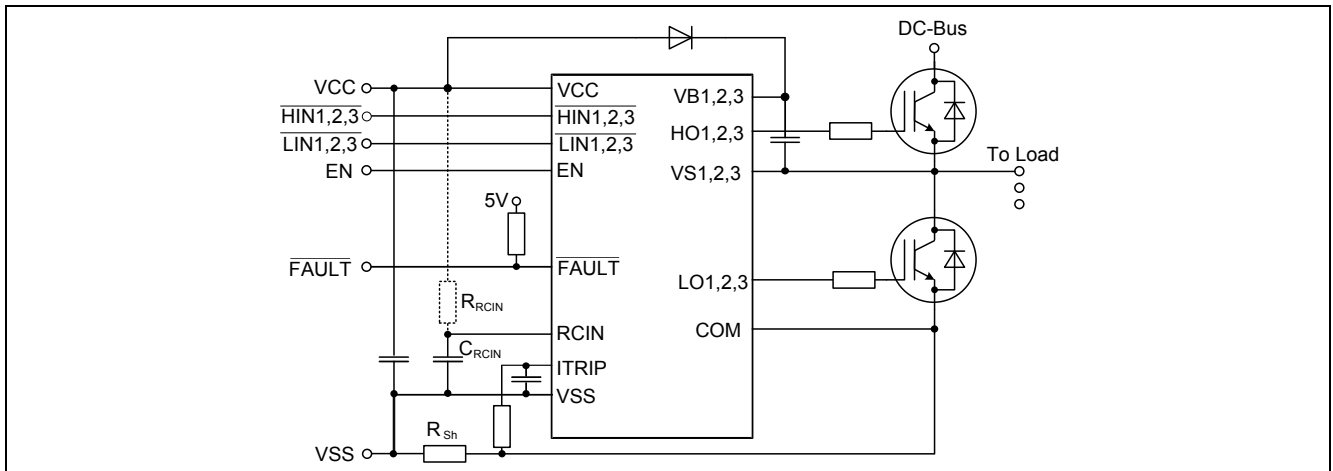

Figure 1 Typical Application
p. 8	revised Figure 1
The six independent drivers are controlled at the low-side using CMOS resp. LSTTL compatible signals, down to 3.3 V logic. The device includes an under-voltage detection unit with hysteresis characteristic and an over-current detection. The over-current level is adjusted by choosing the resistor value and the threshold level at pin ITRIP. Both error conditions (under-voltage and over-current) lead to a definite shut down of all six switches. An error signal is provided at the FAULT open drain output pin. The blocking time after over-current can be adjusted with an RC-network at pin RCIN. The input RCIN owns an internal current source of 2.8 μ A. Therefore, the resistor R_{RCIN} is optional. The typical output current can be given with 165 mA for pull-up and 375 mA for pull down. Because of system safety reasons a 310 ns interlocking time has been realised. The function of input EN can optionally be extended with an over-temperature detection, using an external NTC-resistor (see Fig.1).